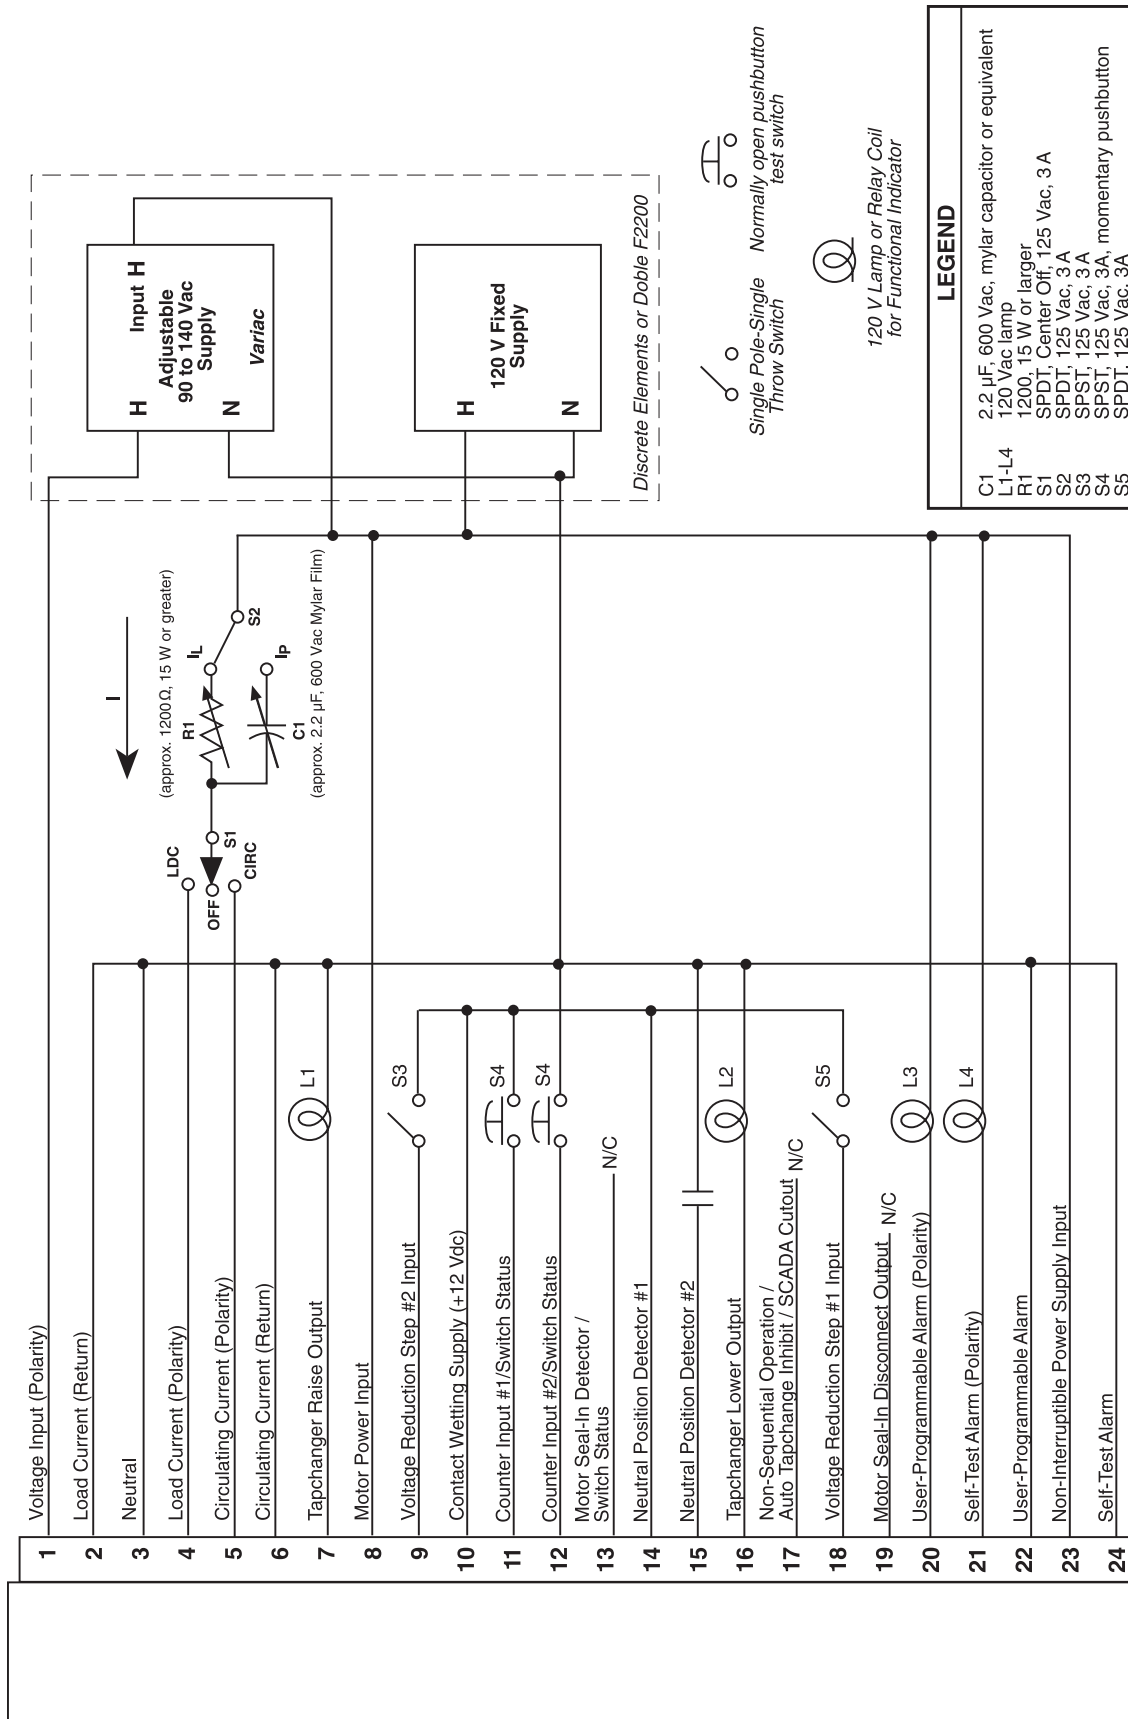

Figure 5 External Connections for Test Procedure
1. Make electrical connections as shown in Figure 5, External Connections for Test Procedure.